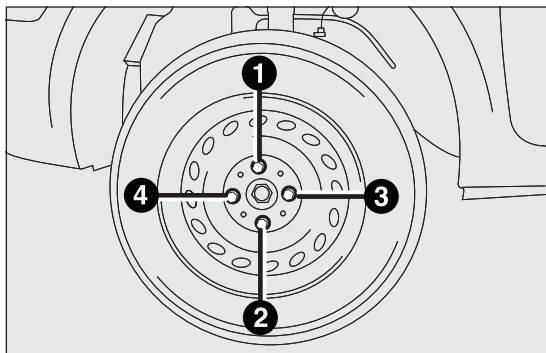

fig. 102
- ❑ fasten the bolts completely, working in a criss-cross fashion as shown in fig. 102.
- ☐ using the wrench provided, fully tighten the bolts in the sequence shown in fig. 102;